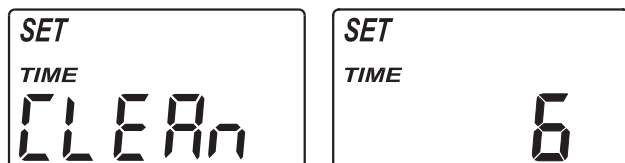

FIG. 25
2. Press the SELECT button twice to display the "Set Clean Time" screen (See Figure 25).